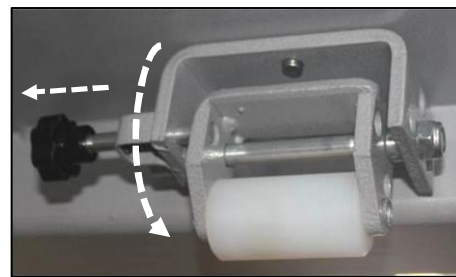

Fig. 16
- To access the platform's nylon 'rub block' board, first **raise platforms** and position **all 6ea** of the **retractable nylon wheel dollies** (underside of platforms) to the 'down & locked' position. With the wheel dollies in the 'down & locked' position, then fully lower the lift to the ground. **Fig. 16.**